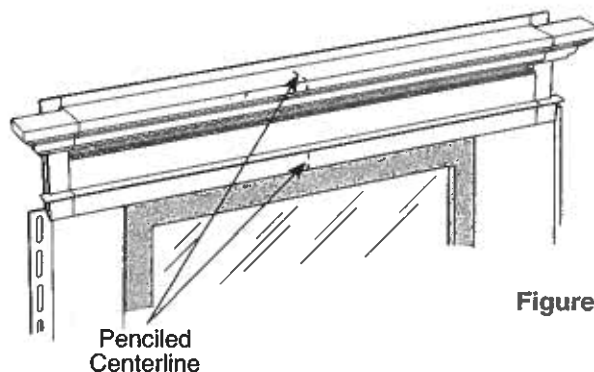

Figure 10
9. Pencil a centerline on Mantel top and bottom (Figure 10) and on Keystone top and bottom.